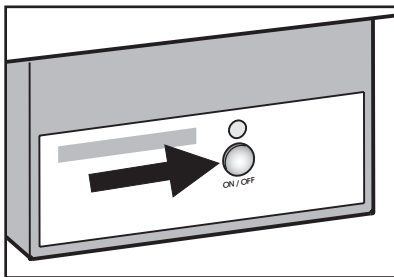

Figure 10
## To Start the IceMaker - Figure 10
- Press the "ON/OFF" button so the control lamp comes on (**Figure 10**).